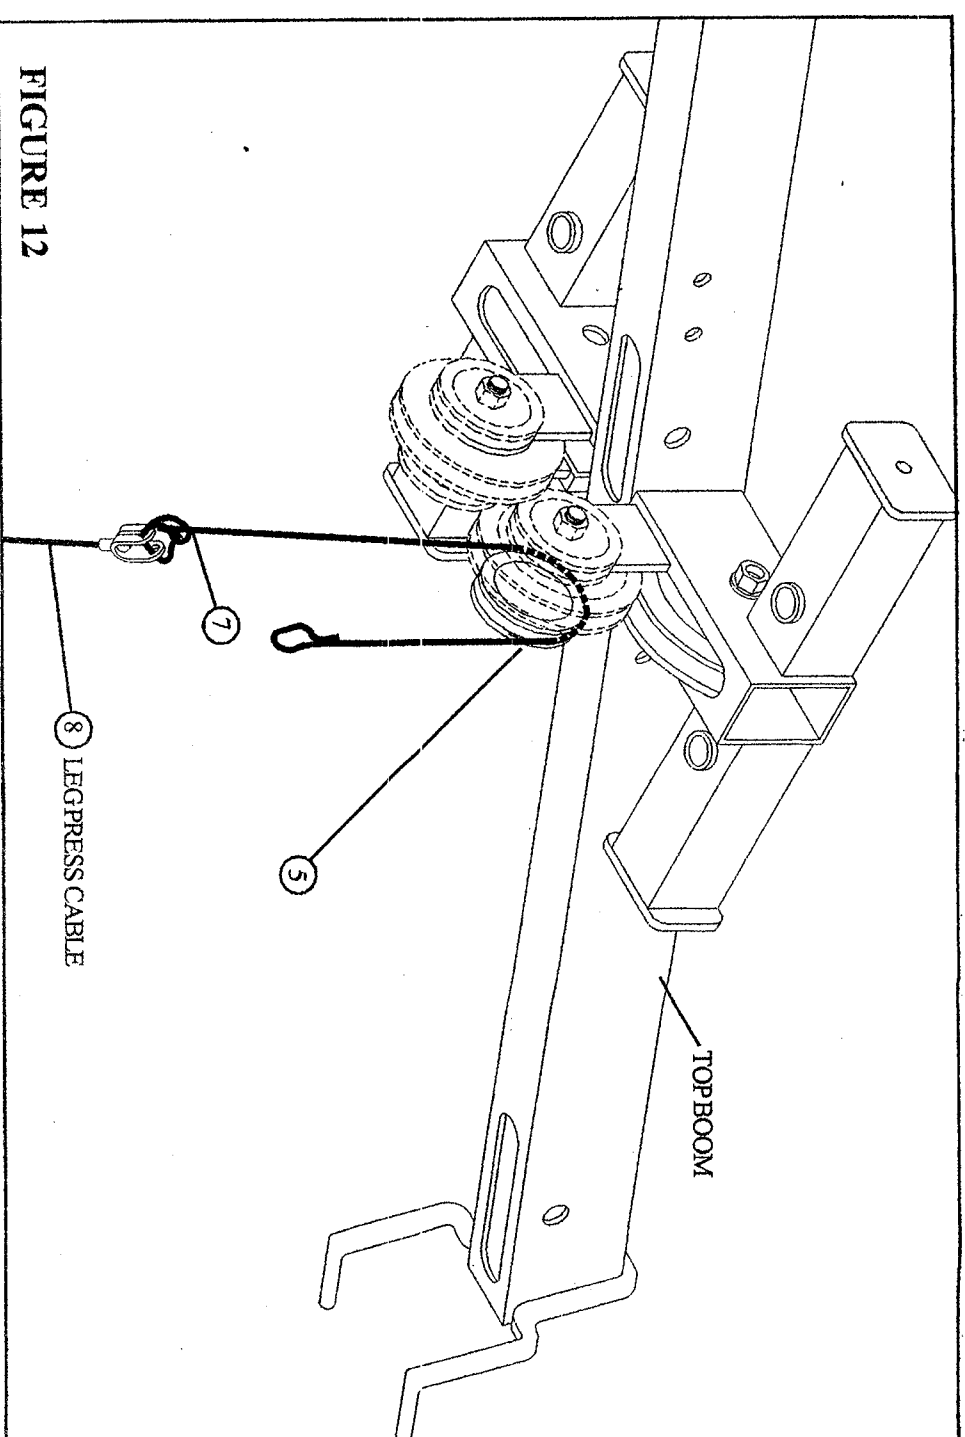

FIGURE 12
- Assemble the 72" ELASTIC CORD (7) from the LEG PRESS CABLE (8) around the 2" PULLEY (5) in the TOP BOOM as shown in FIGURE 12.